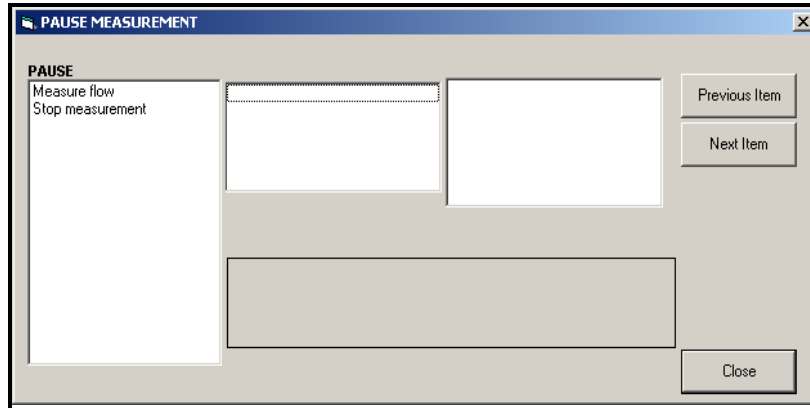

Figure 17: The Pause Measurement Window
2. Expand the *Edit Functions* option, and double-click on the *Pause Measurement* entry. A window opens similar to *Figure 17* below.